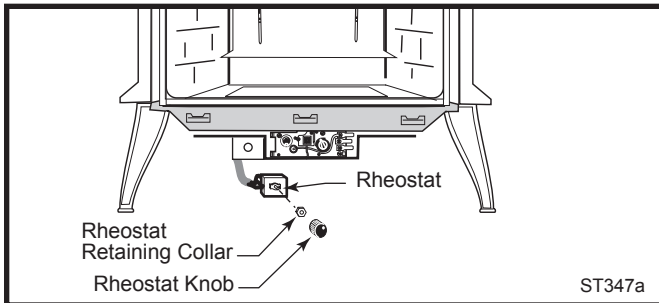

Fig. 14 Attach the fan rheostat.
4. The rheostat control switch attaches to the left side of the valve bracket at the front of the stove. (Fig. 14)